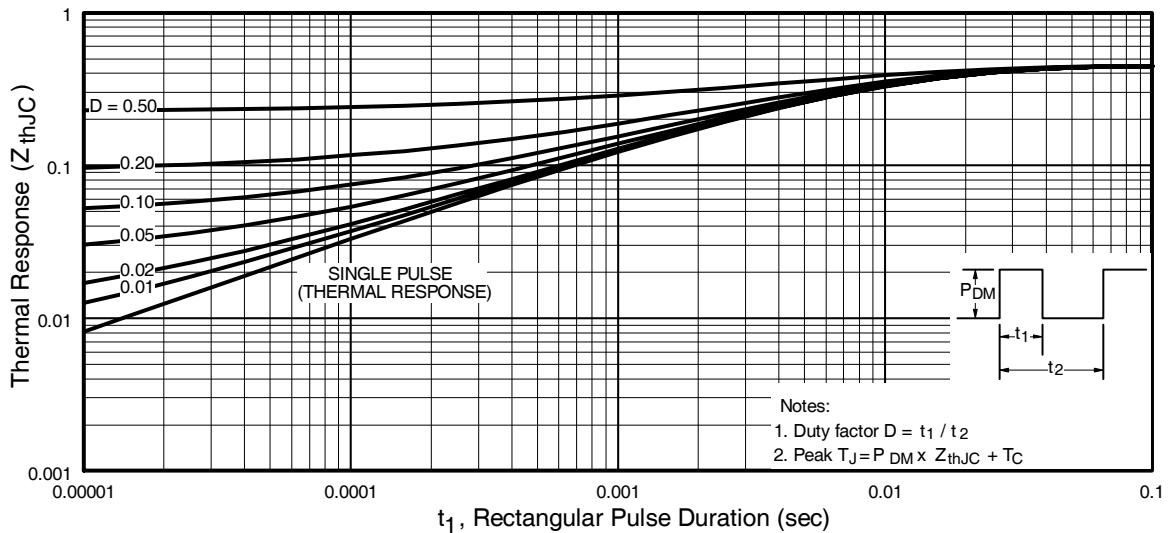

Fig 11. Maximum Effective Transient Thermal Impedance, Junction-to-Case
- ① Repetitive rating; pulse width limited by max. junction temperature. (See fig. 11)
- ② Starting $T_J = 25^\circ\text{C}$, $L = 85\mu H$
$Z_{thJC}(D, t_{av})$ = Transient thermal resistance, see figure 11)